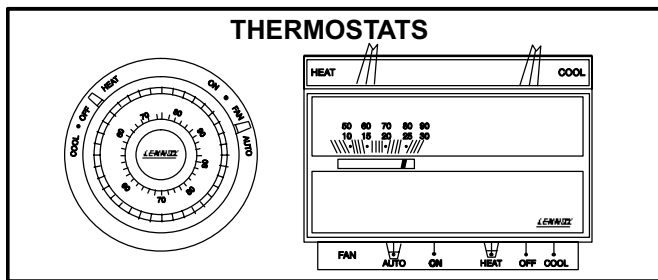

Figure 2
- 2 - Set thermostat to lowest setting. See figure 2.